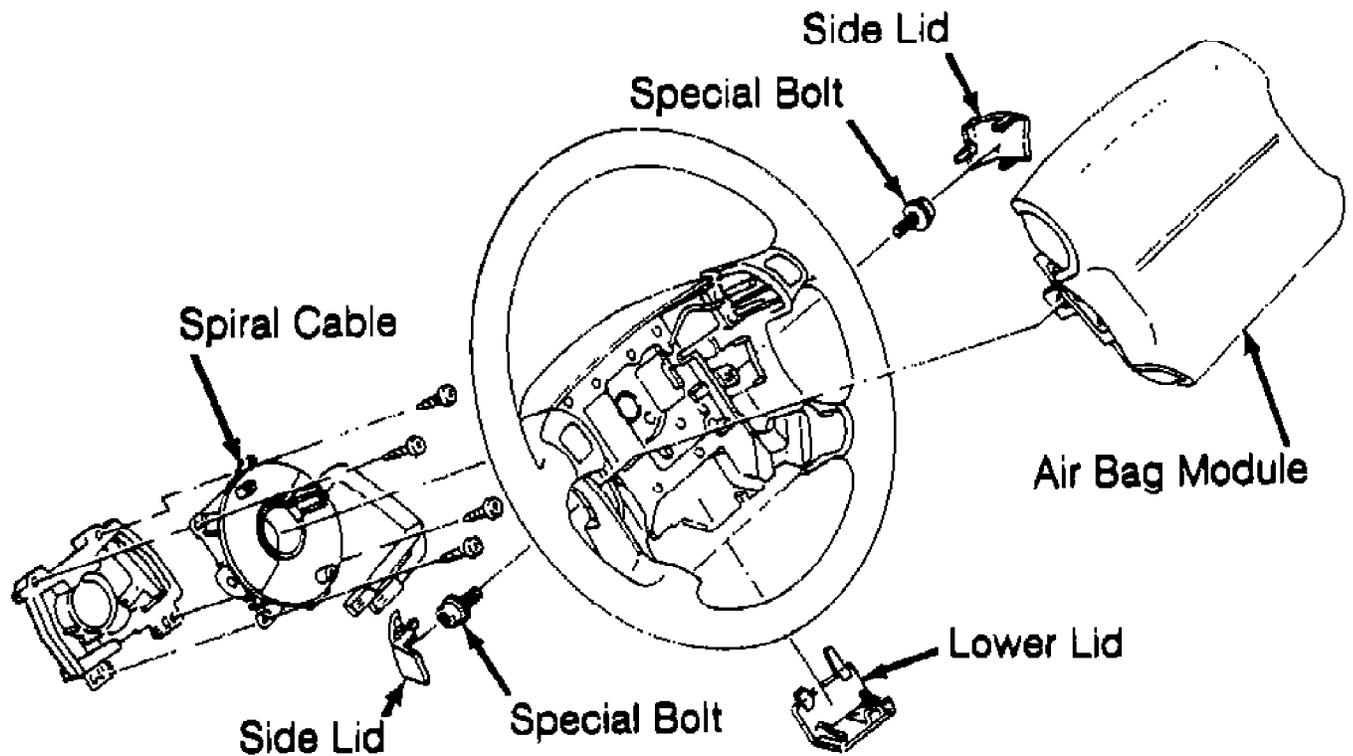

Fig. 6: Exploded View of Steering Column & Air Bag Module
1) Disconnect battery ground cable and wait for AT LEAST 10 minutes to discharge voltage from air bag electronic control unit. Remove lower steering column panel. Disconnect air bag module connector. See Fig. 6.